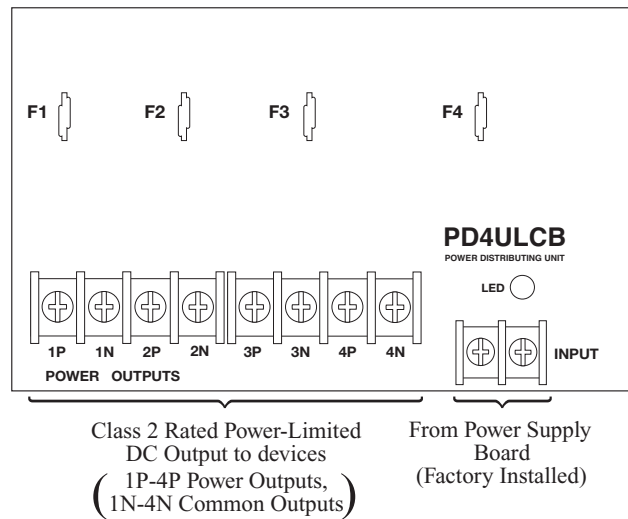

Fig. 3a
- b. For other Power Distribution Models: connect devices to be powered to the terminal pairs 1 to 4 marked [1P & 1N through 4P & 4N] (Fig. 2a & 2b, pg. 5) or 1 to 8 marked [1P & 1N through 8P & 8N] (Fig. 3a & 3b, pg. 5), carefully observing correct polarity.